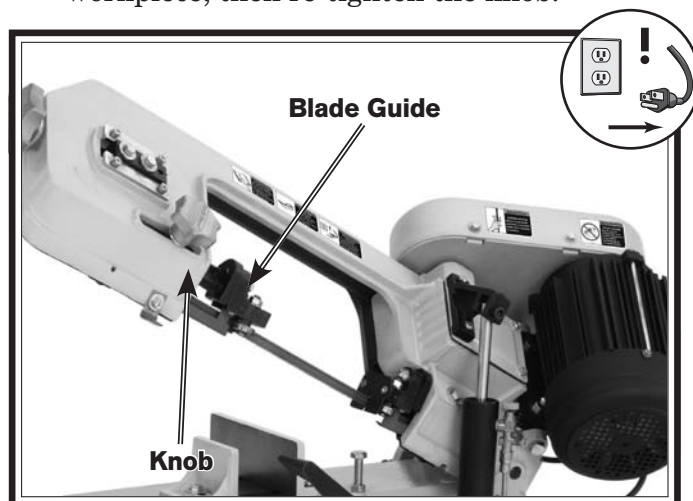

Figure 40. Blade guides.
2. Loosen the knob shown in **Figure 40** and slide the blade guide to within $\frac{1}{4}$ " of the workpiece, then re-tighten the knob.